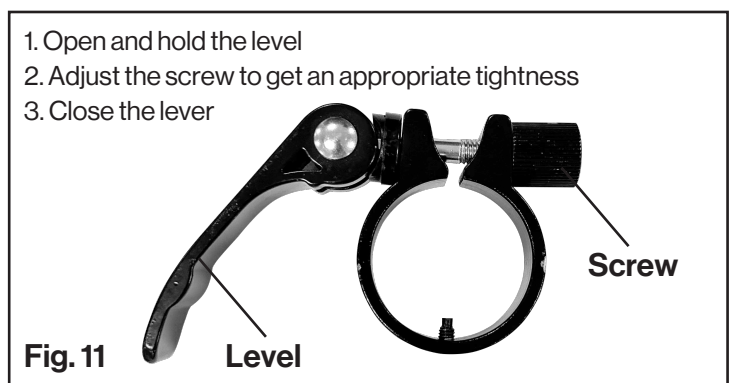

Fig. 11
- 4) If necessary, you can adjust the screw at clamp, to get a more tighten or loosen clamping. **(Fig.11)**